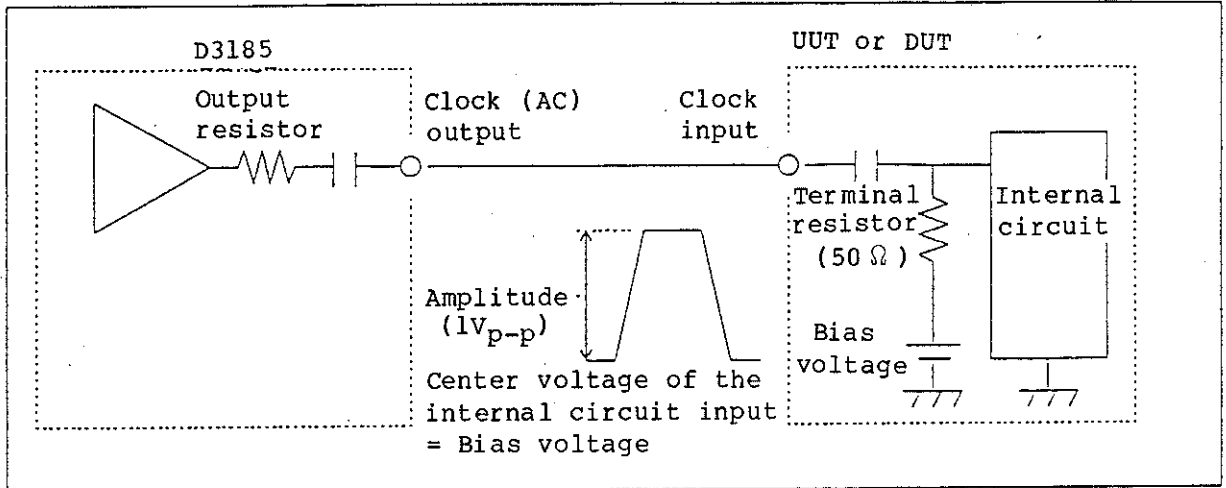
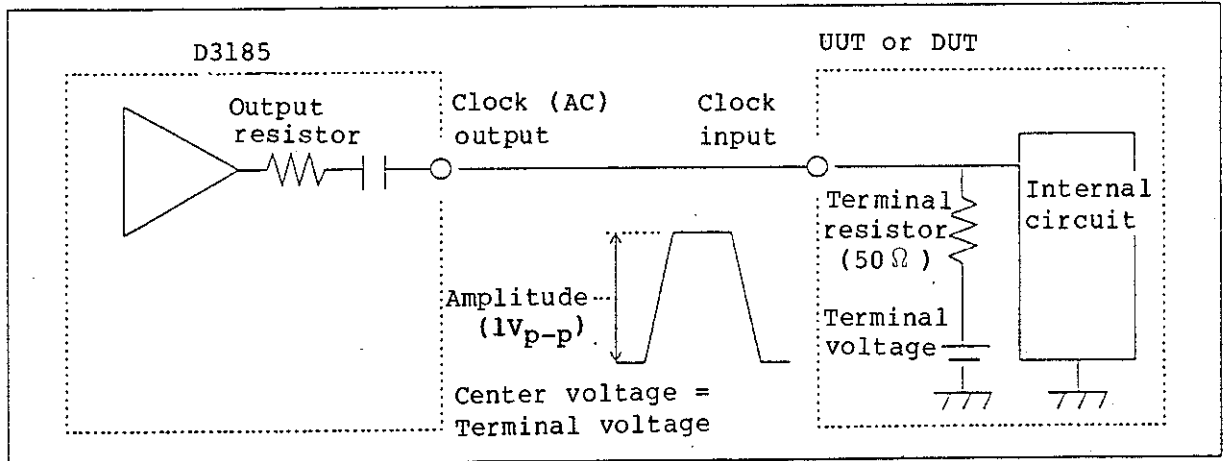

Fig. 4-7 With Clock (AC) Output used and AC-connected Terminal
Fig. 4-8 With Clock (AC) Output used and DC-connected Terminal
(3) If the UUT or DUT Clock Input is AC-connected (See Fig. 4-7.) or DC-connected but the Amplitude Center Voltage is to be Equal to the Terminal Voltage (See Fig. 4-8.)